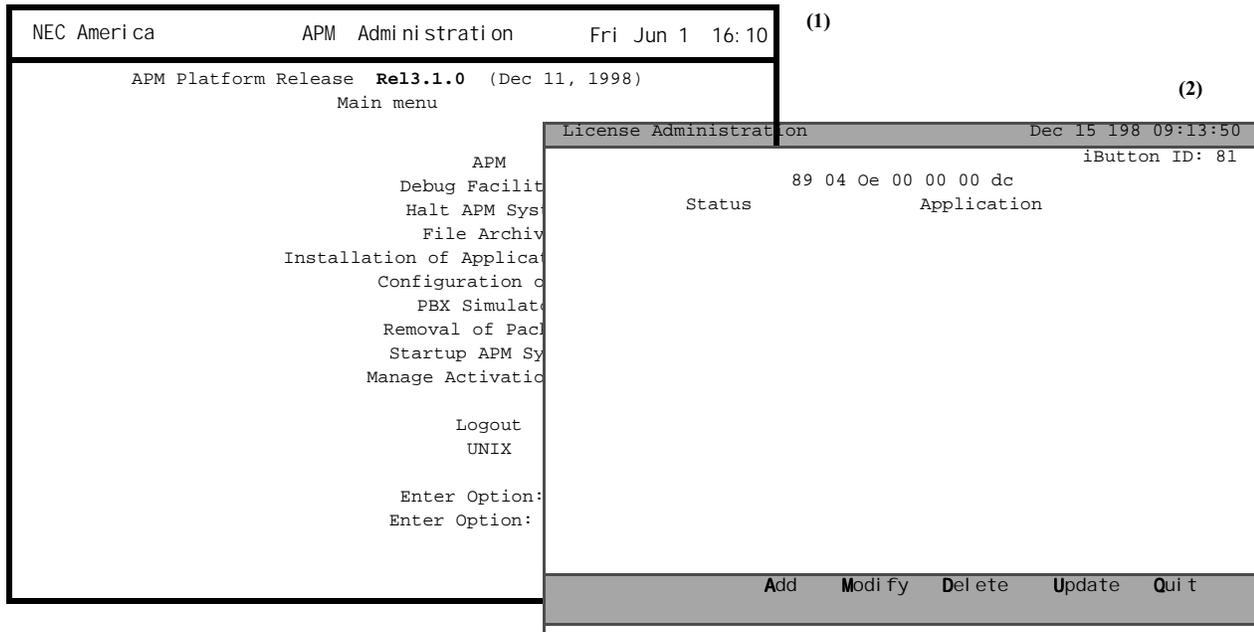
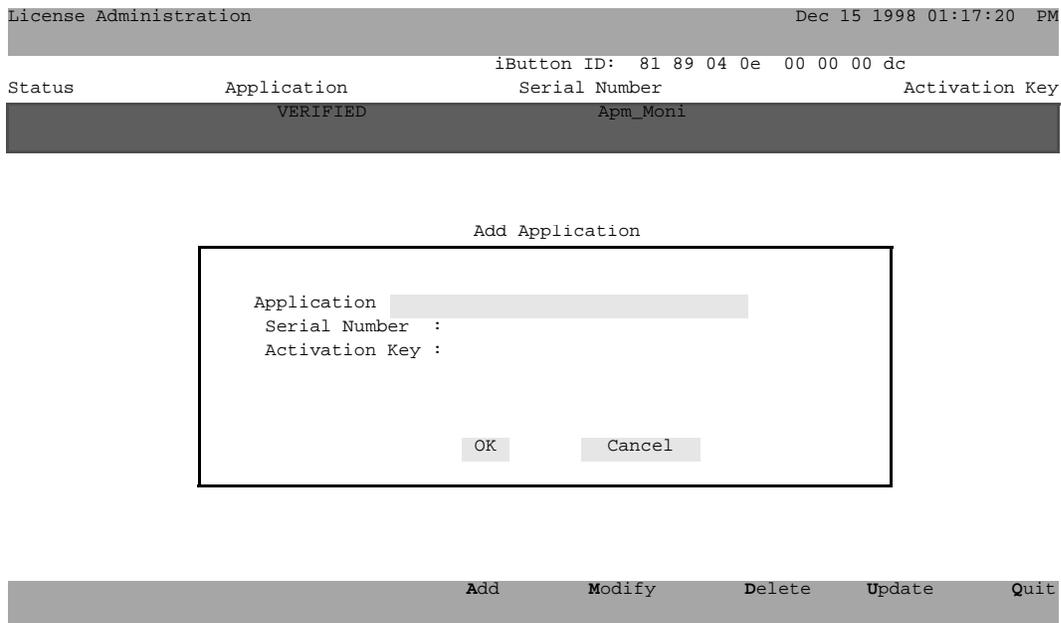
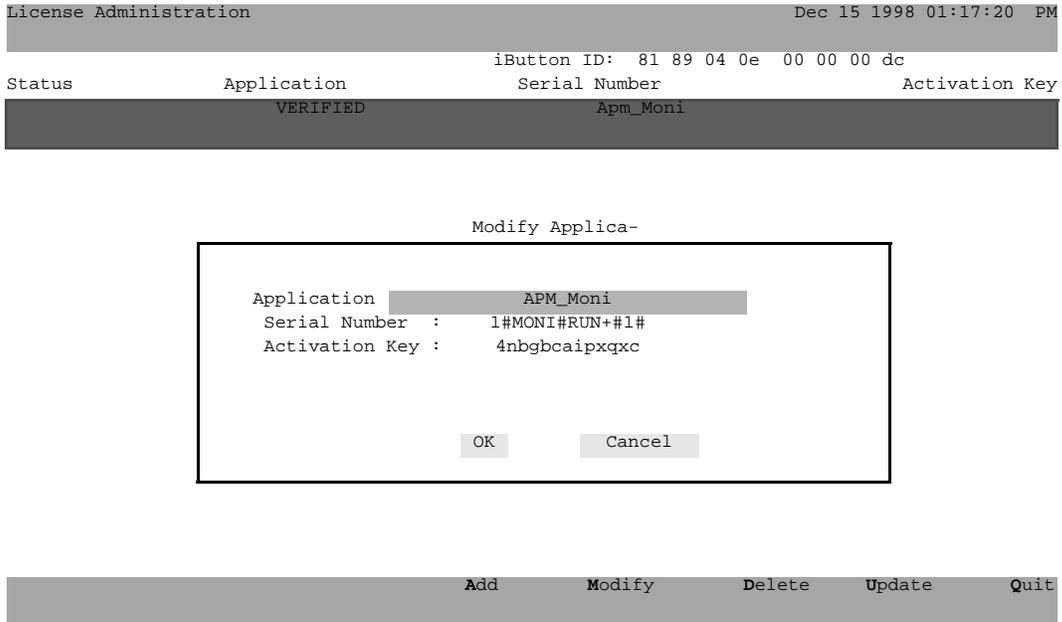
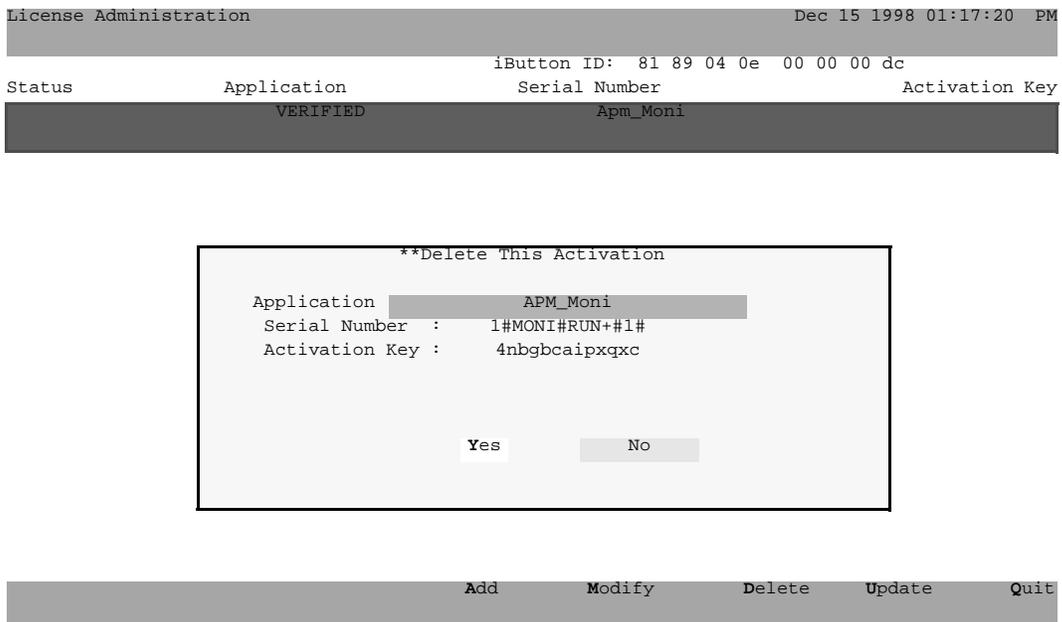

Figure 2-30 Startup APM System
Figure 2-31 Add Application
Figure 2-32 Modify Application
Figure 2-33 Delete Application
On the APM Platform Administration Main menu, select the Startup APM System option and press RETURN. (1)	Messages indicate the steps being taken to start up the APM system, and, when the sequence is completed, the APM Platform Administration Main menu is redisplayed. The APM Status in the far bottom right-hand corner indicates that the APM is Active. (2) (Please see Figure 2-30 , Figure 2-31 , Figure 2-32 , Figure 2-33 , Figure 2-34 , Figure 2-35 .)